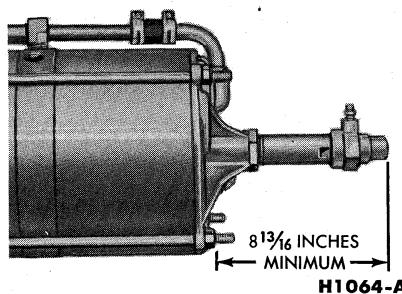

FIG. 50—Hydraulic Cylinder Adjustment
46. Carefully guide the hydraulic cylinder over the piston cup, and thread the cylinder into the end plate. Align the bleeder screw in the end cap with the bleeder screw in control valve. Adjust the hydraulic cylinder to a minimum of $8\frac{1}{16}$ inches (Fig. 50). Tighten the lock nut.